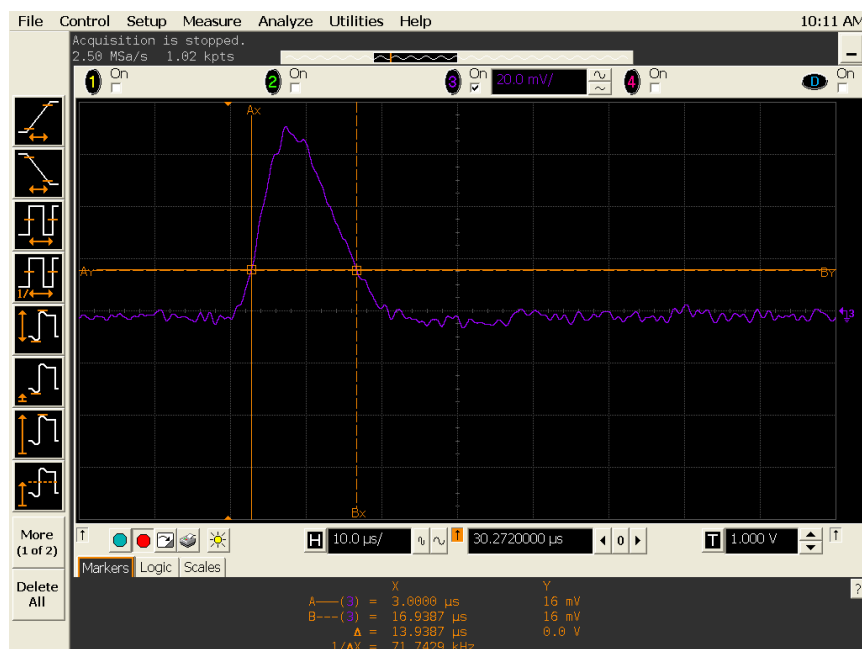

Figure 5-5 Graph of load transient response
- 7 Adjust the oscilloscope to display transients as shown in **Figure 5-5**. Note that the pulse width ($t_2 - t_1$) of the transients at 15 mV from the base line is no more than 50 μ s for the output.